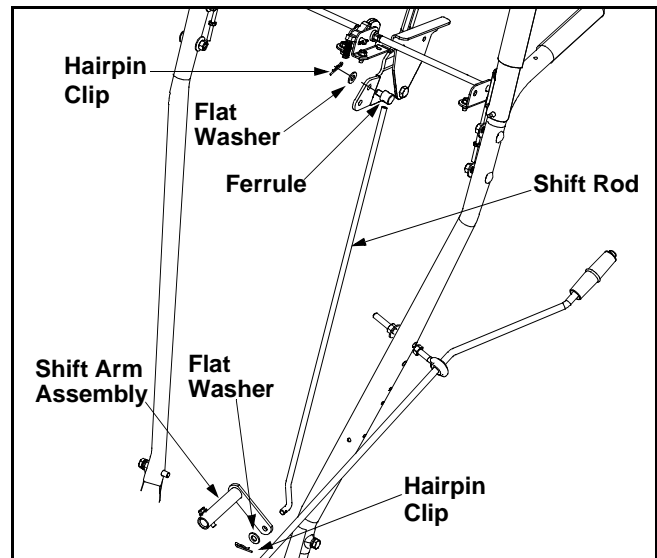

Figure 7
- Place the shift lever (on the handle panel) in the sixth (6) speed position (all the way forward).
- Place the bent end of the shift rod into the hole in the shift arm assembly. Secure with flat washer and hairpin clip. See Figure 7.
- Thread the ferrule onto the shift rod until the ferrule lines up with the **upper** hole in the shift lever (beneath the handle panel). Insert the ferrule into the upper hole in the shift lever from the left side when adjustment is correct. Secure with flat washer and hairpin clip. See Figure 7.